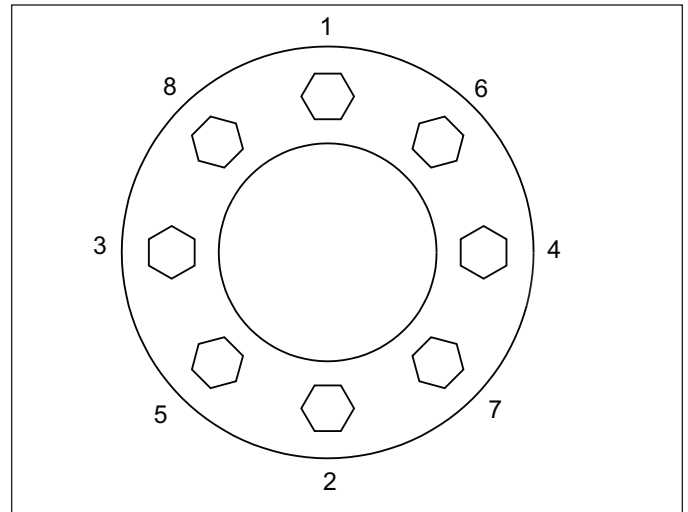

Figure 2-5: Stud Tightening Sequence
2. Re-Install the Wheel Bolts and tighten to 50 foot-pounds using the sequence in **Figure 2-5**. Then tighten to full torque of 90-100 ft-lbs. It is good maintenance practice to lubricate the wheel bolts prior to inserting.